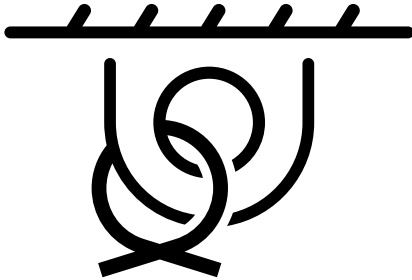

Figure 4. Tie-Down Symbol
1. Locate the tie-down symbols (Figure 4) on each side of the float.